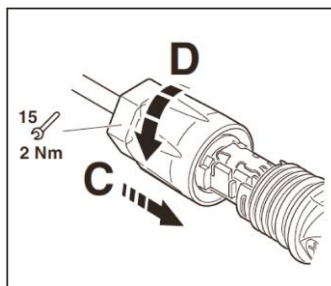

Figure 5-16
6. Push the insert into the sleeve (Figure 5-16, C).
7. Tighten the cable gland to 2 Nm (Figure 5-16, D). Use a suitable and calibrated torque wrench, size 15. Use an open-jaw wrench, size 16, to hold the connector in place.